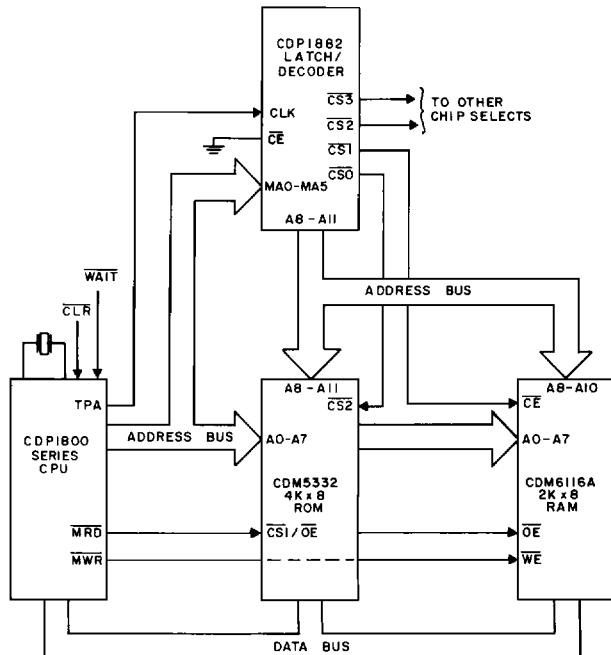

Fig. 5 - CDP1800-series system using the CDP1882.
- (1) Latch and decode high-order address bits for use as chip selects.
- (2) Gate chip selects with MRD and MWR to prevent bus contention with the CPU.
- (3) Latch high-order address bits A8 to A11.
A system using the CDP1882 is shown in Fig. 5. The CDP1882 performs the memory address latch and decoder functions. Note that the RAM has an output enable (OE) pin which eliminates the need for MRD and MWR inputs on the latch/decoder. Instead, the MRD line is connected directly to the RAM output enable (OE) pin.